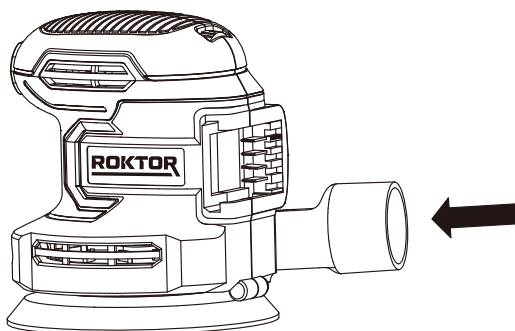

Figure 3
3. USING DUST EXTRACTION OUTLET (SEE FIG. 3)